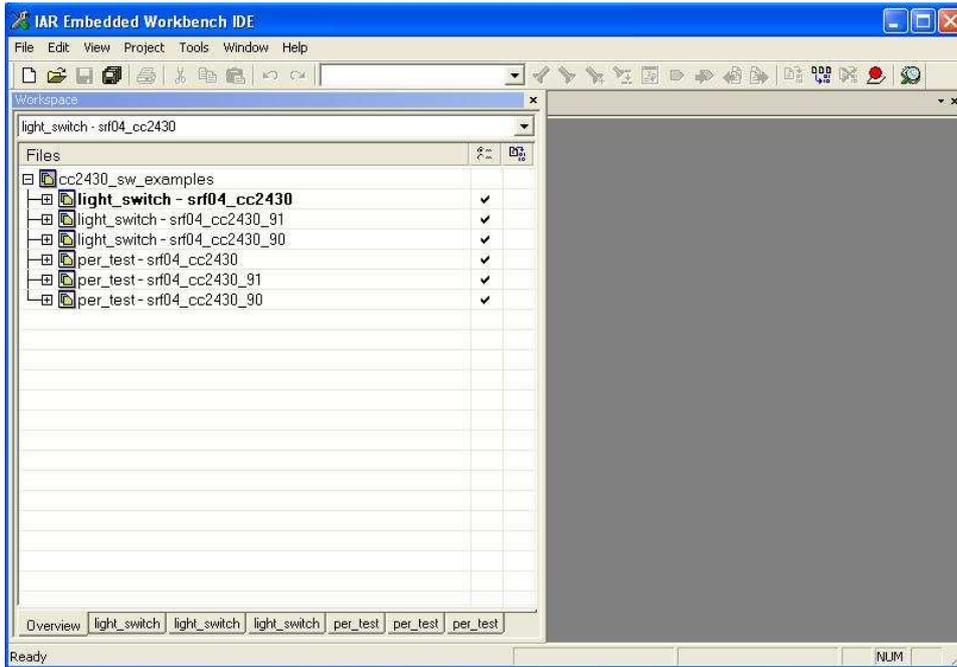

Figure 2 IAR EW
6. Open the workspace file **cc2430_sw_examples.eww** with IAR. This file is found in the folder **\ide** under the folder where the CC2430 Software Examples was unzipped. Figure 2 shows the IAR EW with the workspace opened.